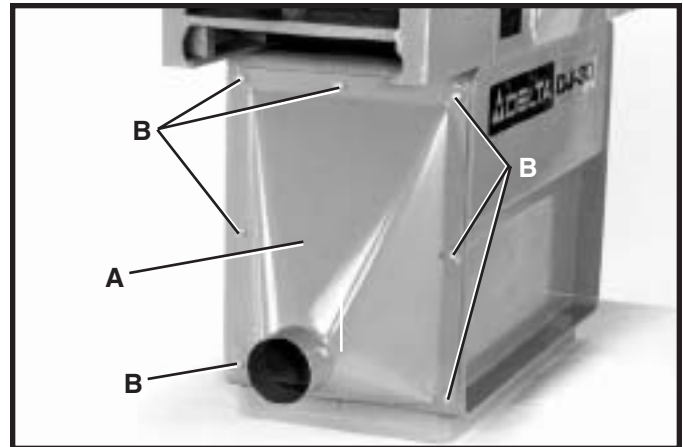

Fig. 8
1. Assemble the dust hood (A) Fig. 8, to the outfeed end of the jointer base using the seven 5/8" long button head screws (B) as shown.